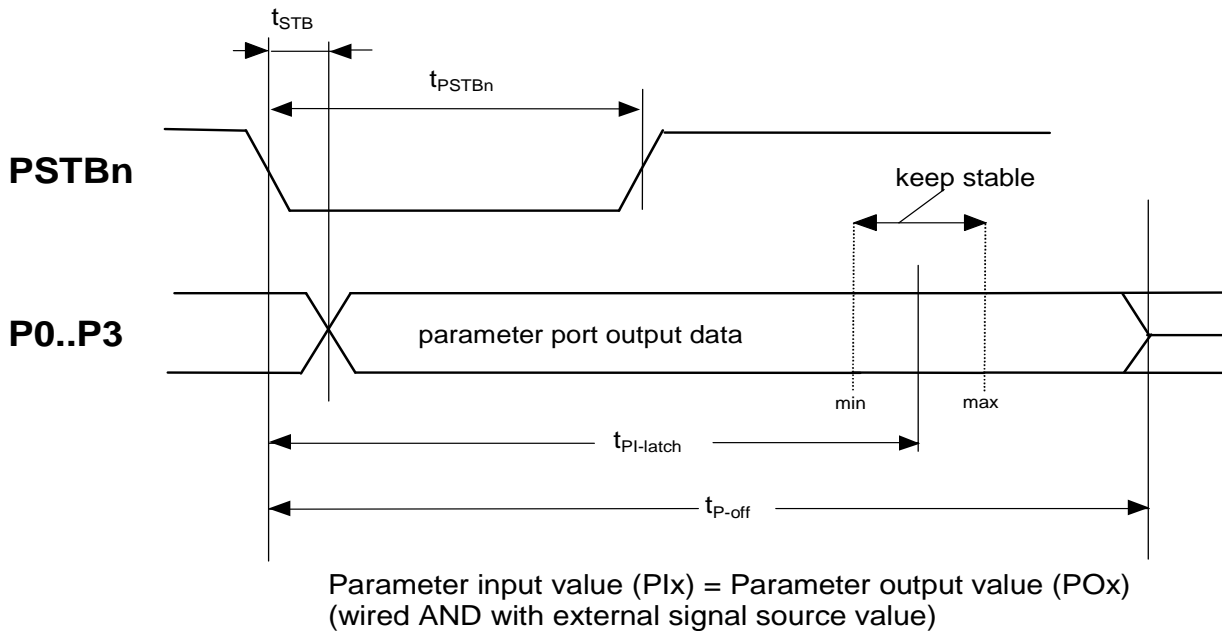
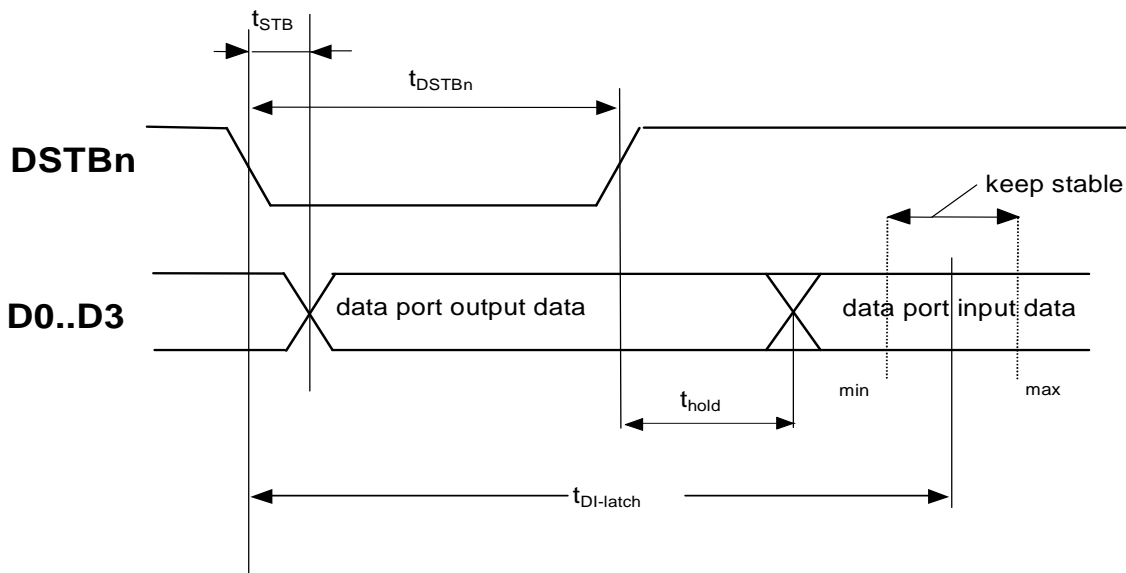

Figure 6: Timing Diagram Parameter Port P0 ... P3, PSTBn
Figure 7: Timing diagram data port D0 ... D3 and DSTBn
The availability of new parameter output data is signaled by the Parameter Strobe (PSTBn) signal as shown in Figure 6.
The availability of new output data is signaled by the Data Strobe (DSTBn) signal as shown in Figure 7. The DSTBn pin has an additional reset input function, which is described further in chapter 4.13 IC Reset.
Running in Synchronous Mode, the SAP5 generates the Data Strobe (DSTBn) signal as well, whereas the timing of input sampling and output buffering exactly corresponds to the regular operation (refer to Figure 7 and Table 21).
- It generates Data and Parameter Strobe signals at the DSTBn an PSTBn pins with timing according to Figure 6 and Figure 7.
- **I/O:** bi-directional port with timing according to Figure 6 and Figure 7